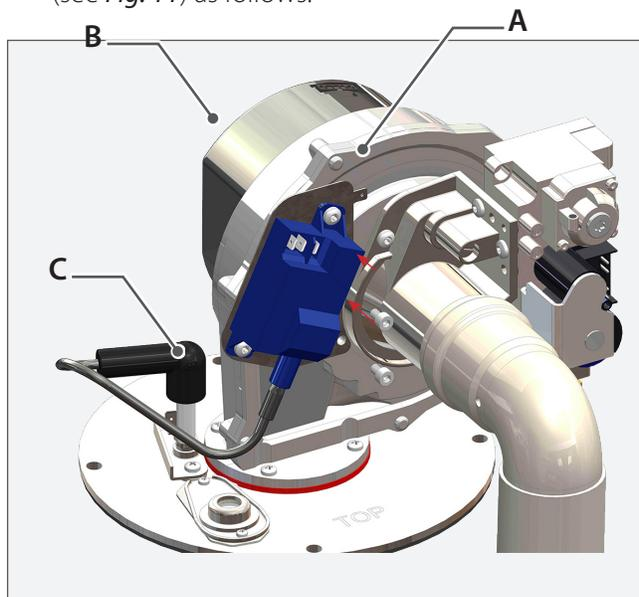

Fig. 10 - Spark Generator and Bracket (PT Excellence)
2. Locate the spark generator with bracket (A) on the blower (B). (See Fig. 10), and secure using 2 of the venturi-to-blower screws.
3. Connect the spark generator cable with connector (C) to the new igniter.